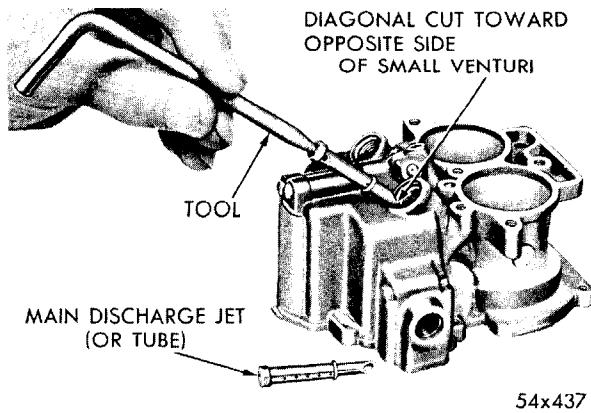

Fig. 15—Installing Main Discharge Jets (or Tubes)
(1) Place the main discharge jets (or tubes) firmly on Tool 73608, as shown in Figure 15. Now, slide into position in the main body. Be sure the opening in the end of tube (diagonal cut end) is facing the opposite side of the small venturi. **These two jets must be seated firmly in the main body.**